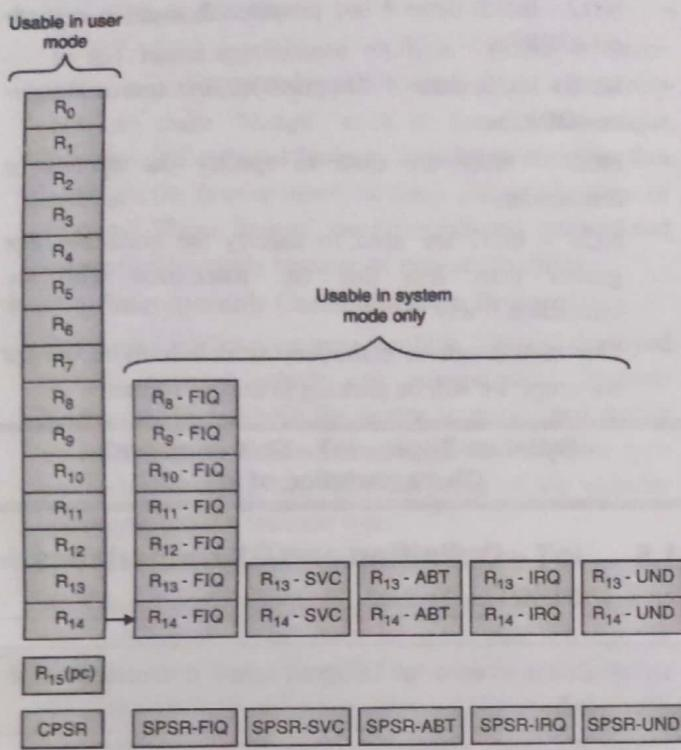

Fig. 1.4.2 : ARM Register set in various Operating Modes
- As shown in Fig. 1.4.2, registers are distributed amongst operating modes.
- All modes have a common **R15** Program Counter (PC) which keeps track of the address of instruction which is going to be executing next.
- **R13** is Stack Pointer (SP) and **R14** is Link Register (LR). SP is used to point to top of the stack that stores data while making a function call and LR stores the address of the location to jump when interrupt is handled by the OS.